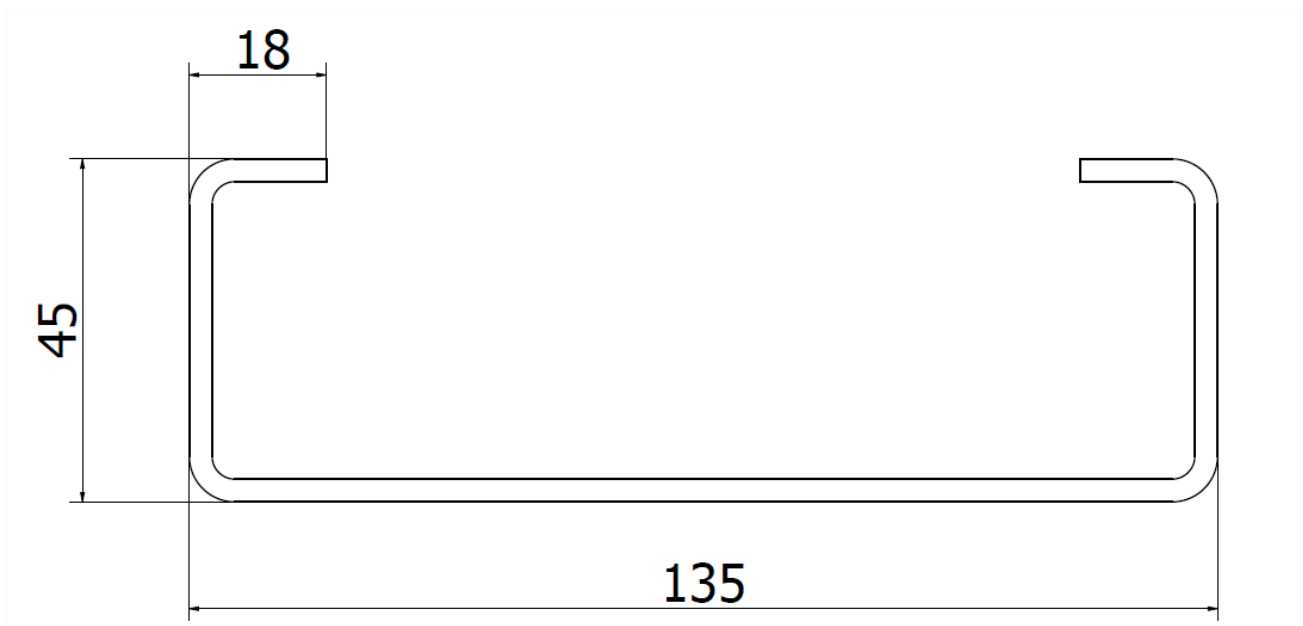

FIG1. Cross-section of a support driven into the ground
1. In order to assemble the structure by hammering, it is necessary to have suitable machinery, e.g. a pile driver or an excavator with a suitable adapter with a load-bearing section – Fig. 1.
5. Supports must be driven to a **MIN depth of 1 300 mm**. When driving in the supports, use a spacer, preferably in the form of a dedicated adapter suitable for its cross-section – Fig.1, direct contact with the component being driven is prohibited. This will prevent mechanical damage and the removal of the anti-corrosion coating from the supports. While driving in, check their vertical position.